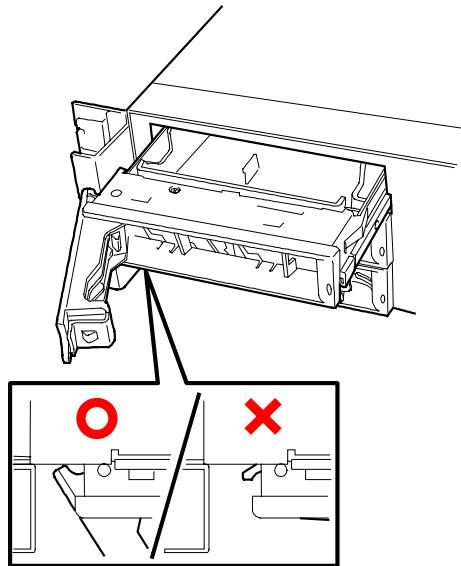

Figure 4-34. Installing the hard Drive
9. Slowly close the handle. See Figure 4-34. The handle is locked when a "click" is heard.
4. Grasp the handle of the hard disk's carrier and unlock the lever located at the bottom of the carrier handle, see Figure 4-34. Pull the faulty drive out of the bay far enough to disengage the drive connector from the backplane. Wait approximately 10 seconds until the drive spins down, then remove the drive from the bay.